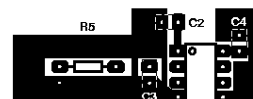

Figure 26. Top Layer of Printed Circuit Board Layout.
- Exact offset value is dependent on layout of external bypass capacitors. The offset value in the data sheet corresponds to HP's recommended layout (see Figures 26 and 27).
In addition to affecting offset, the layout of the PC board can also affect the common mode rejection (CMR) performance of the isolation amplifier, due primarily to stray capacitive coupling between the input and the output circuits. To obtain optimal CMR performance, the layout of the printed circuit board (PCB) should minimize any stray coupling by maintaining the maximum possible distance between the input and output sides of the circuit and ensuring that any ground plane on the PCB does not pass directly below the HCPL-7850. Using surface mount components can help achieve many of the PCB objectives discussed in the preceding paragraphs. An example through-hole PCB layout illustrating some of the more important layout recommendations is shown in Figures 26 and 27. See Applications Note 1078, *Designing with Hewlett-Packard Isolation Amplifiers*, for more information on PCB layout consideration.